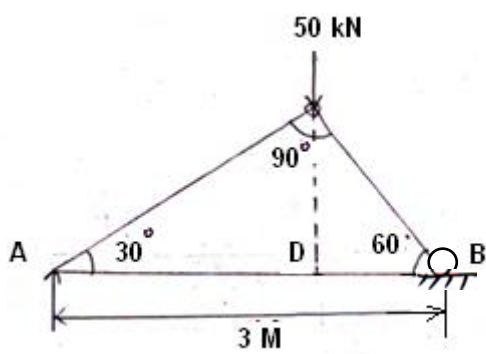

Fig. 16
Q.19	(a) Write down the basic assumption made in analysis of truss. (b) Analyse the truss loaded as shown in fig. 16 .